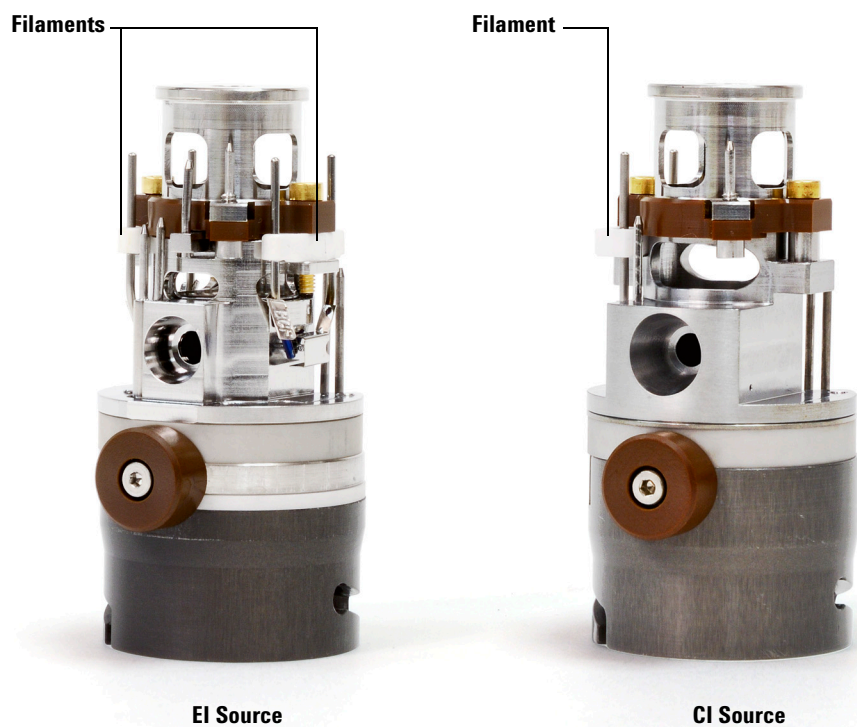

Figure 29 Changing the filament
- 2 Remove the screw holding the filament to the ion source body. (See Figure 29.)
- 3 Slide the filament off the ion source assembly. (See Figure 29.)
- 2 Place the new filament into its position on the ion source body. (See Figure 29.)